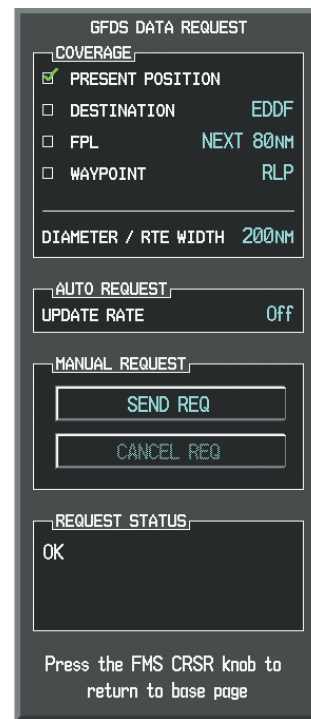

Figure 6-60 GFDS Data Request Window
- 4) Turn the large **FMS** Knob to highlight the desired coverage option(s) and press the **ENT** Key to check or uncheck one of more of the following coverage selections (Figures 6-60, 6-61):